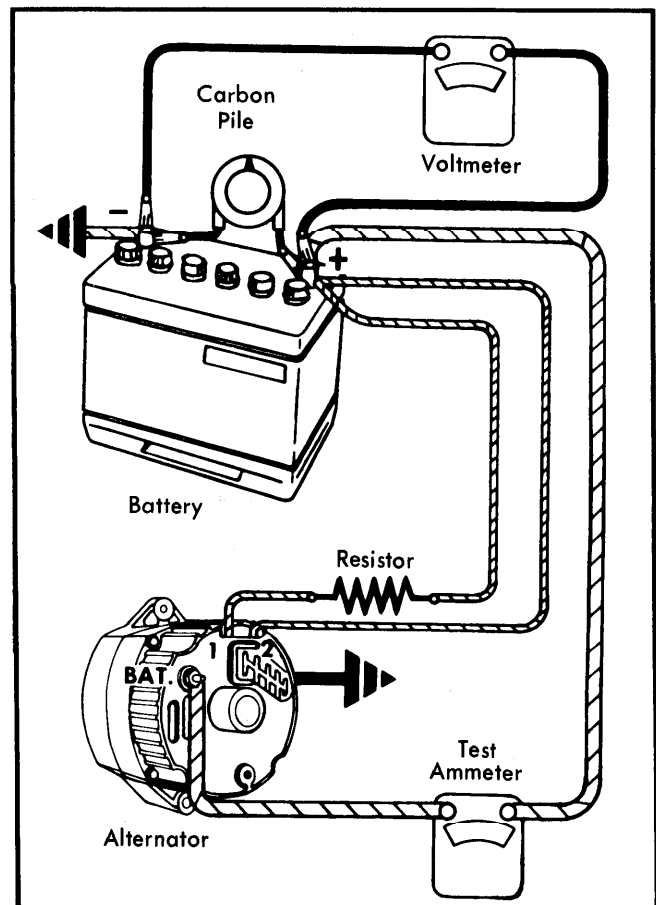

Fig. 5 Alternator Connections for Bench Testing and On-Car Check of Undercharged Battery
3) Disconnect battery ground cable. Connect an ammeter in series at "BAT" terminal of alternator. See Fig. 5. Reconnect battery ground cable. Turn on all available accessories. Connect a carbon pile across battery. Operate engine at moderate speed and adjust carbon pile as necessary to obtain maximum current output.